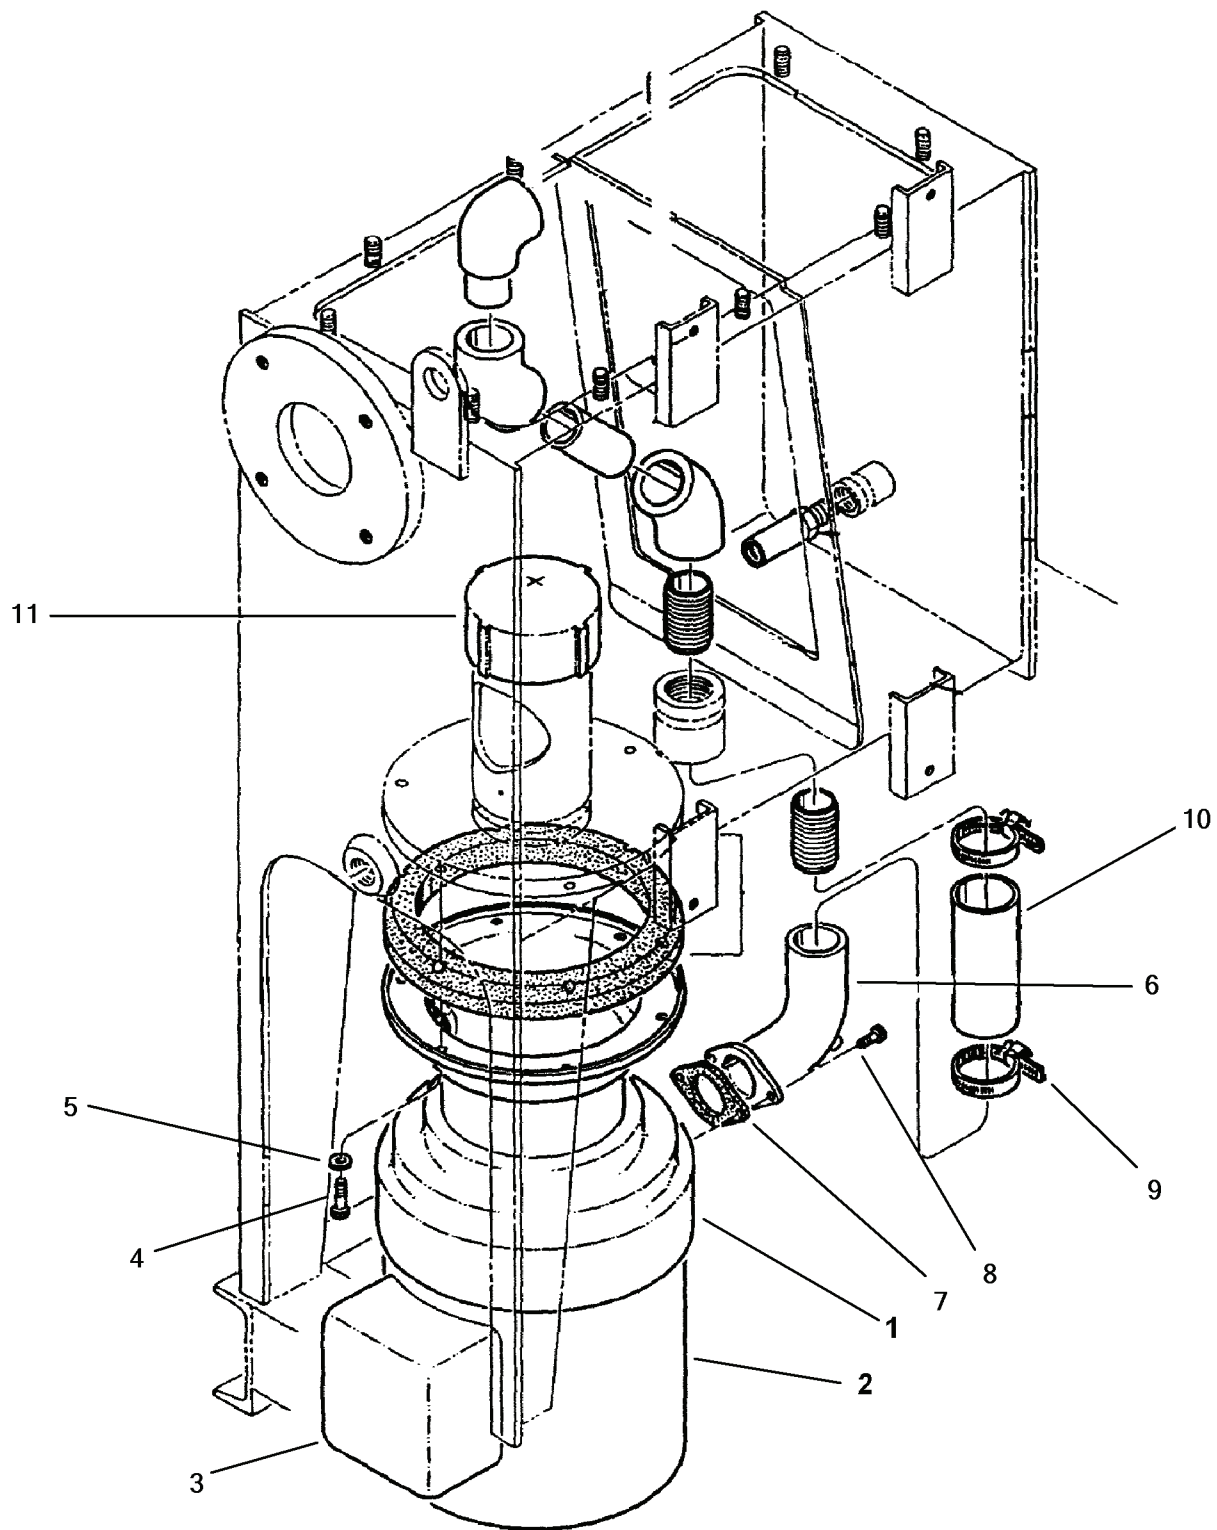

Figure 2-19. Macerator Connections.
2-18. Macerator Pump Assembly. (Figure 2-19)
- b. Remove cap (11, Figure 2-19) using a chain wrench.
See Figure 2-19 and proceed as follows:
- b. Install macerator (2, Figure 2-19) using capscrews (4) and washers (5), finger tight only.
- c. Position hose (10) and clamps (9) and connect to nipple and elbow (6), finger tight only.
- d. Reconnect elbow (6) and gasket (7) with capscrews (8), finger tight only.
- e. Tighten capscrews (4) finger tight only, alternately to ensure proper alignment of gasket and macerator. Tighten capscrews (8) to secure the elbow (6). Tighten clamps (9) around hose (10).